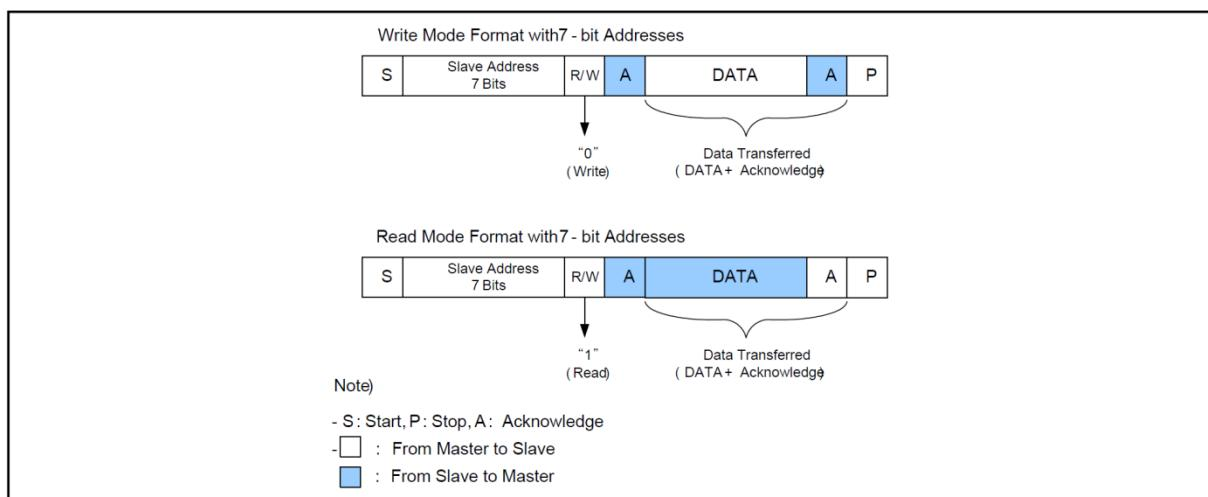

Figure 21-4 I2C-Bus data format
The first seven bits of the first byte make up the slave address. The eighth bit is the LSB (Least Significant Bit). It determines the direction of the message. A 'zero' in the least significant position of the first byte means that the master will write information to a selected slave. A 'one' in this position means that the master will read information from the slave. A data transfer is always terminated by a STOP condition (P) generated by the master. The first acknowledge is generated by the slave. But the acknowledge of data is generated by the receiver. Figure 21-4 shows the 7-bit data format.